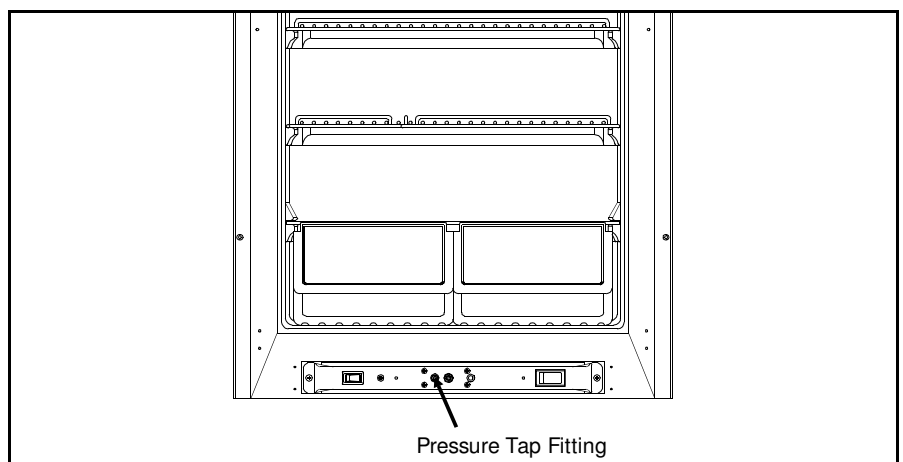

Figure 3.28 Location of Pressure Tap Fitting
6. Check the gas pressure through the Combination Control. Figure 3.28 shows where the "U" tube is to be connected.